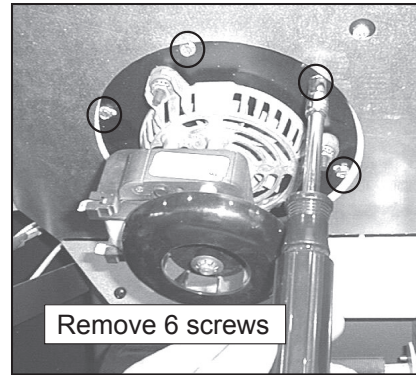

Figure 21.2
- Remove 6 screws using a flathead screwdriver or a 1/4" nut-driver. Retain screws for use on replacement blower. **Figure 21.2.**